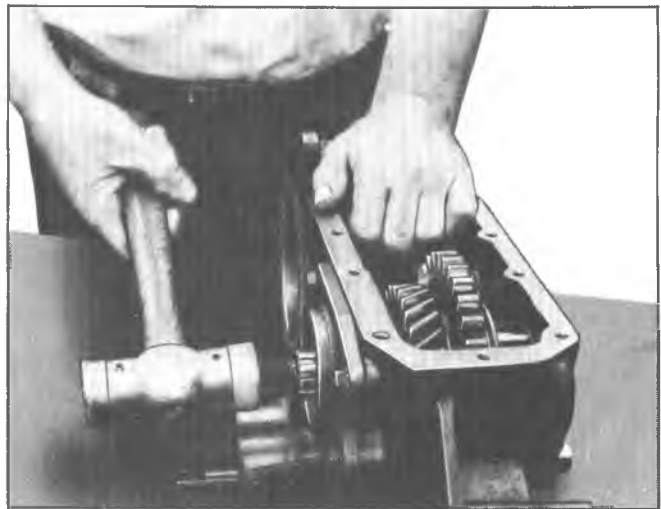

Fig. 4D--Removing Front Output Shaft
10. Tap on front end of front output shaft, removing shaft from the rear of the case as shown in Figure 4D. Remove front washer, front bearing, gear washer, and output gear from case as they clear shaft. This procedure will also remove the rear bearing cup.